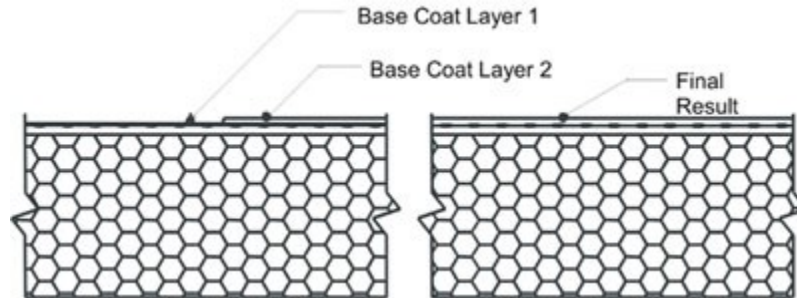

Figure 11: Reinforcing Mesh
- 3) Allow the base coat mixture to take up until firm to the touch. Trowel a second tight coat of the base coat mixture over the first coat to **fully cover** the reinforcing mesh - Figure 11. The result should be such that the reinforcing mesh is approximately centered within the base coat thickness. Do not allow the first pass to completely dry prior to the second pass application or an excessive amount of base coat mixture will be necessary to fully coat the wall surface.